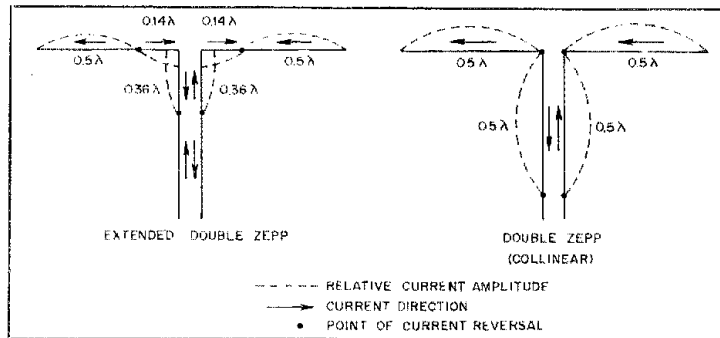

Fig. 1 — Corrected current distribution for the antennas described by Passmore.
Fig. 1 — Shown at A is a simple method of obtaining low-frequency square-wave pulses. The voltage source should suit the circuit under test. An alternate circuit for use with TTL levels is shown at B. The inverter can be used or not, as appropriate.
□ McDonald's article, "An End-Fed Extended Double Zepp for 2 Meters" (June 1982 QST), is an excellent one. However, I believe the current distribution diagrams for the double Zepp and extended double Zepp (Fig. 1) are incorrect.
Since it is necessary for the current to reverse every 180° (or half wavelength) of its travel, currents in the transmission line of the double Zepp must be the reverse of that shown. Likewise, the current in the center sections of the extended double Zepp must be the reverse of that in the outer two sections of the antenna. Also, currents cannot flow in the same direction on opposite sides of the transmission line. Please refer to Fig. 1 for what I believe to be the proper representation of current flow in these antennas. — *Floyd X. Passmore, W7KLE, Beaverton, Oregon*